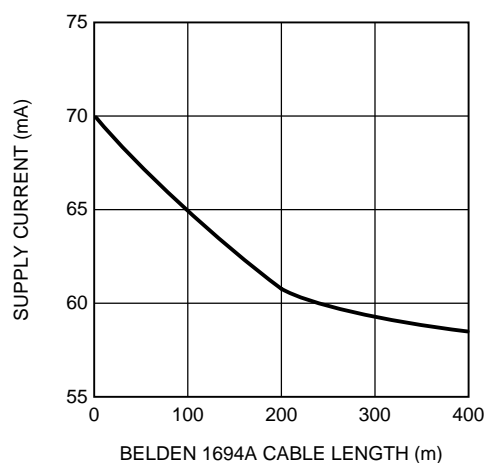

Figure 2. Supply Current vs. Belden 1694A Cable Length, 270 Mbps
- (1) Current flow into device pins is defined as positive. Current flow out of device pins is defined as negative. All voltages are stated referenced to $V_{EE} = 0$ Volts.
(2) Typical values are stated for $V_{CC} = +3.3V$ and $T_A = +25^\circ C$.
(3) Specification is ensured by characterization.
(4) The maximum input voltage swing assumes a nonstressing, DC-balance signal; specifically, the SMPTE-recommended color bar test signal. Pathological or other stressing signals may not be used. This specification is for 0m cable only.
(5) Supply current depends on the amount of cable being equalized. The current is highest for short cable and decreases as the cable length is increased. Refer to Figure 2.
The supply current (I_{CC}) depends on the amount of cable being equalized. The current is highest for short cable and decreases as the cable length is increased. Figure 2 shows supply current vs. Belden 1694A cable length for 270 Mbps data.